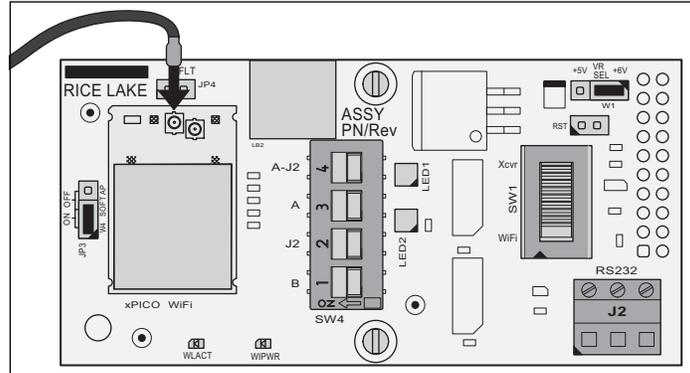

Figure 4. Antenna Connection Location
- A.3 Connect the u-FI end of the antenna cable to the Antenna 1 connection on the WLAN card (Figure 4).